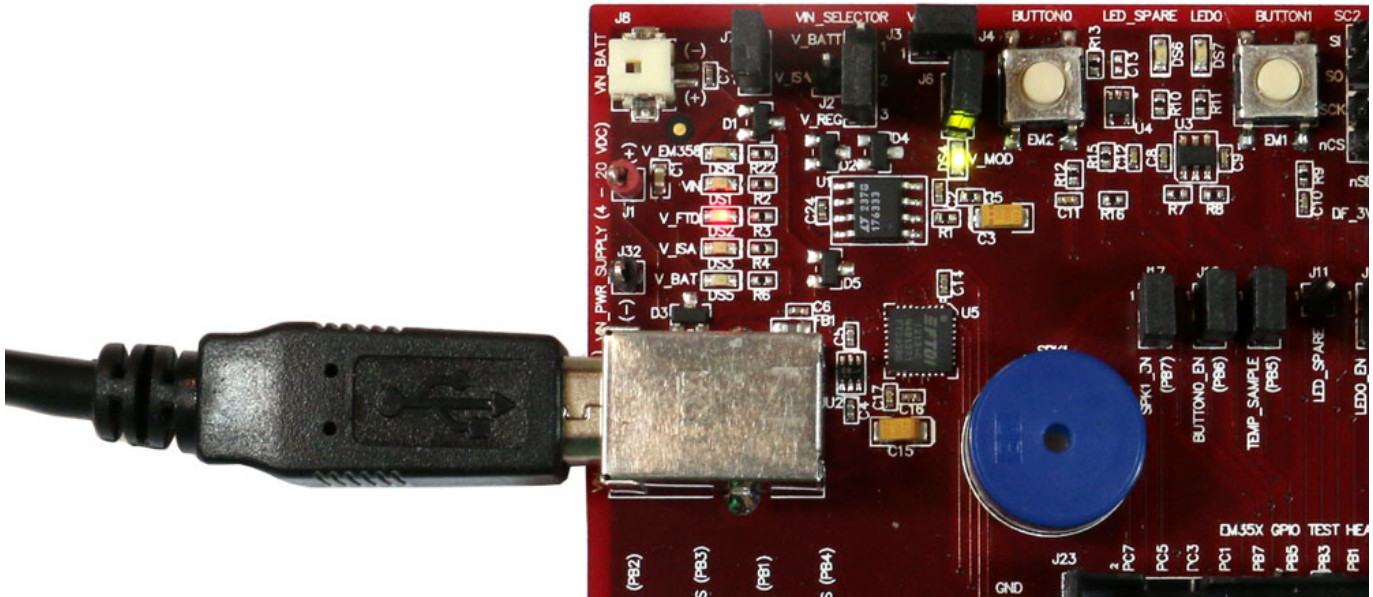

Figure 8. Breakout Board Power Supplied by USB (J5)
- Breakout Board Power Supplied by USB (Figure 8): The Breakout Board may also be powered through the USB connector (J5), either using a USB cable plugged in to the USB power adapter included in the development kit, or by connecting it to your PC. The power supply jumper on the Breakout Board should be in the lower vertical position, connecting V_REG to the center pin. The V_FTDI LED (DS2) will